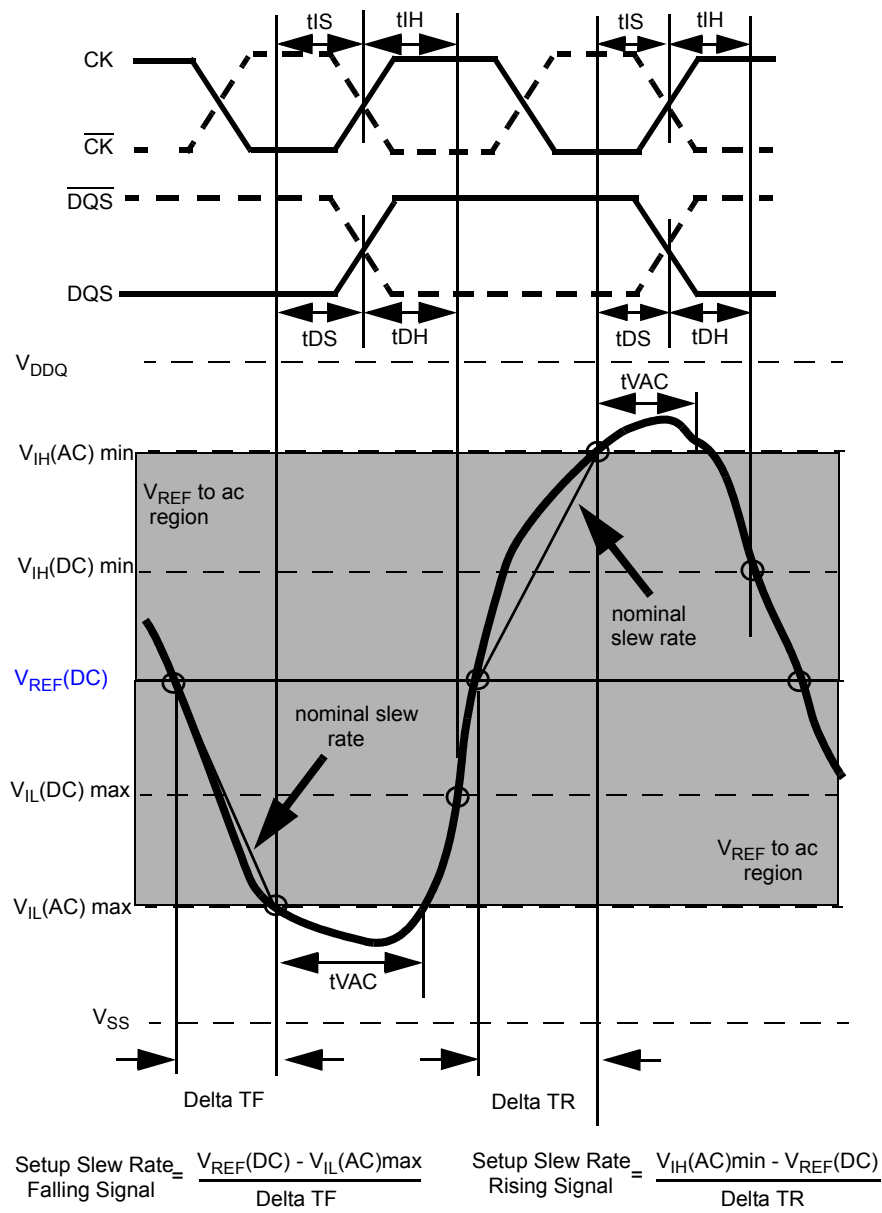
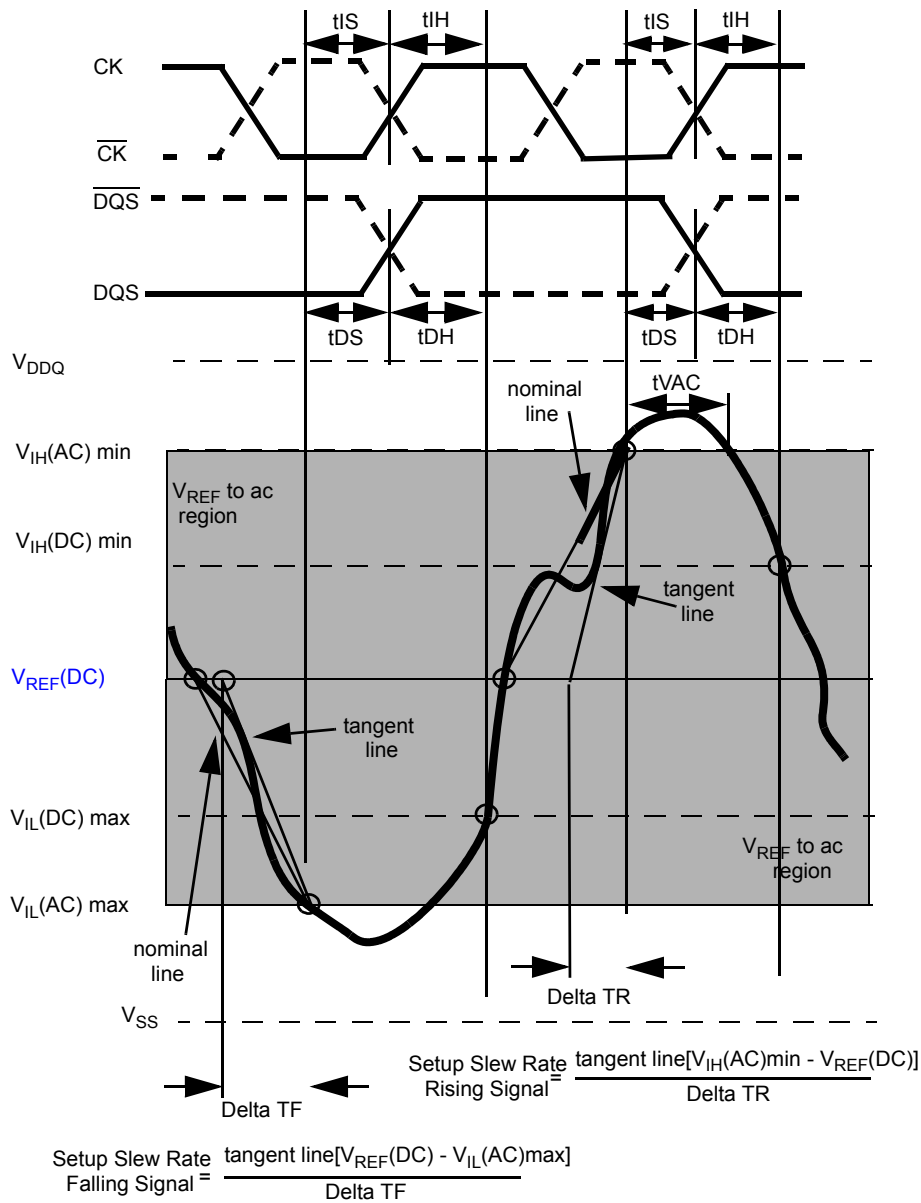

Figure 25 - Illustration of nominal slew rate and tVAC for setup time tDS (for DQ with respect to strobe) and tIS (for ADD/CMD with respect to clock).
Figure 27 - Illustration of tangent line for setup time t_{DS} (for DQ with respect to strobe) and t_{IS} (for ADD/CMD with respect to clock)
Setup (tDS) nominal slew rate for a rising signal is defined as the slew rate between the last crossing of VREF(DC) and the first crossing of VIH(AC)min. Setup (tDS) nominal slew rate for a falling signal is defined as the slew rate between the last crossing of VREF(DC) and the first crossing of VIL(AC)max (see Figure 25). If the actual signal is always earlier than the nominal slew rate line between shaded 'VREF(DC) to ac region', use nominal slew rate for derating value. If the actual signal is later than the nominal slew rate line anywhere between shaded 'VREF(DC) to ac region', the slew rate of a tangent line to the actual signal from the ac level to dc level is used for derating value (see Figure 27).